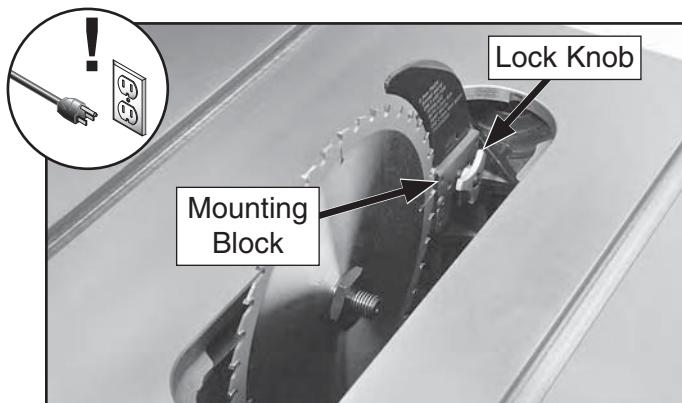

Figure 118. Lock knob location.
4. Re-install the spreader/riving knife, tighten the lock knob (see **Figure 118**), then re-install the table insert.